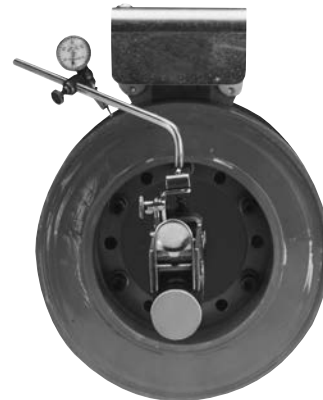

Figure 3
- d. After the unit is in place the mounting face and pilot diameter must be square and concentric with the shaft in accordance with the tolerances listed on the drawings. (Figure 3)